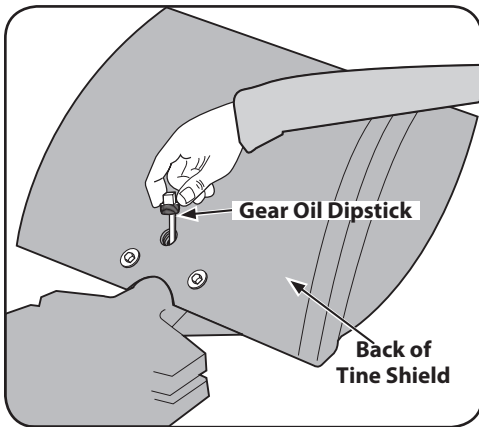

Figure 5-7
NOTE: Two different gear oil checking procedures for the tine attachment transmission are described next. Use the first procedure if the dipstick in your tine attachment has only a 'Check Cold' marking. Use the second procedure if the dipstick has both cold and hot markings at the end. First remove the dipstick from the tine attachment transmission to see which type of dipstick you have. See Figure 5-7. Then replace the dipstick with the markings on the dipstick facing to the rear.
on the back of the tine shield. See Figure 5-7. Wipe it clean with a rag.
7. Hold the dipstick so its markings face to the rear of tiller. Lower it straight down into the sump hole to touch the drive shaft inside. See Figure 5-7. Don't force or try to thread it back in; an incorrect reading will result.
Set the handlebar base and bolt aside on a clean surface. The bolt hole in the top of the transmission is the gear oil fill hole. See Figure 5-7.
3. Slowly pour gear oil through a clean funnel into the transmission. Stop when gear oil begins to flow from the oil level check hole on the left side of the transmission. See Figure 5-7.